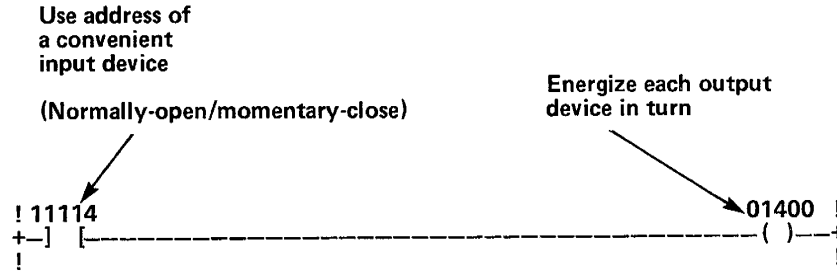
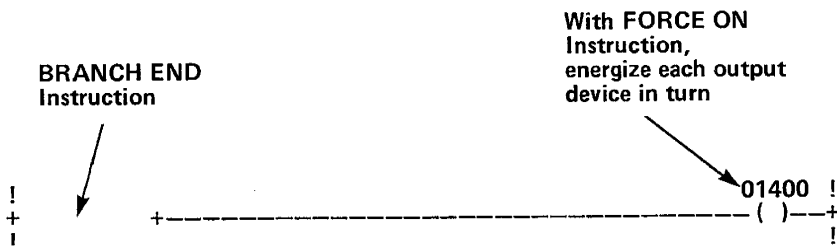

Figure 4.4 – Rung for Output Testing – Push Button Use
Figure 4.5 – Rung for Output Testing – FORCE Function Use
- **Step No. 3** – Enter the output control rung for the first output to be tested. This rung examines the push button for an ON (energized) condition and energizes the output device when the Instruction is TRUE. A sample rung is shown in Figure 4.4.
- **Step No. 3** – Enter the output control rung for the first output to be tested. The rung to be used for these procedures is shown in Figure 4.5.
- **Step No. 3** – Enter the output control rung for the first output to be tested. This rung uses either a normally-open/momentary-close push button as shown in Figure 4.4, or the FORCE ON/OFF function with a BRANCH END Instruction, as shown in Figure 4.5.